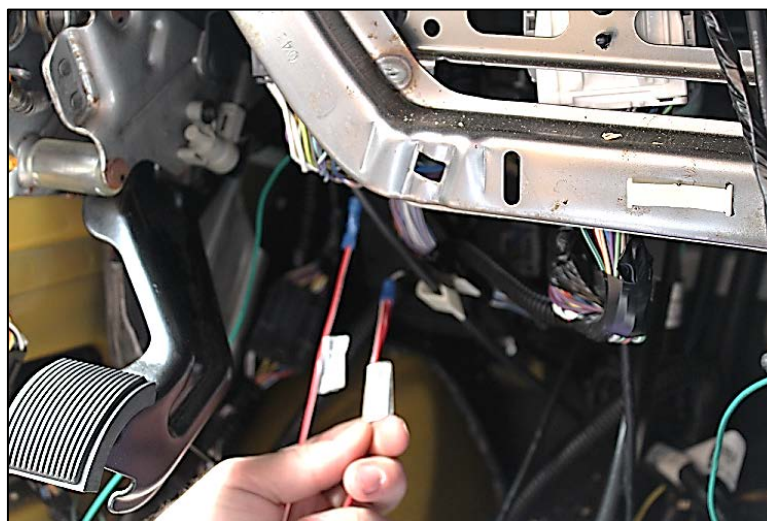

Figure 8: Wires from TBB 221554 Connected to the Park Brake
8. Take the wire from TBB 221554 labeled BODY_H_PRK_BRK_SIG_TO_CHAS and the cut park brake wire going to the chassis and connect these two wires. See **Figure 8**.